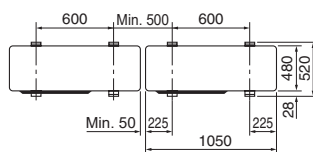

Fig. 2-1
- Be sure to install the unit in a sturdy, level surface to prevent rattling noises during operation. (Fig. 2-1)